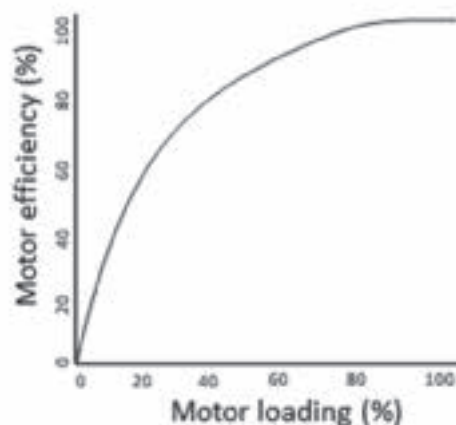

Figure 2. Variation of electric motor efficiency under different loading for constant speed-motors.
- **Motor efficiency:** Three-phase induction motors are used mainly to drive the fans. As the air flow requirement decreases due to reduction in ambient temperature, the motor operates at part-load conditions. Efficiency and power-factor of an induction change with the loading of an induction motor. Until 50% loading, variation in motor efficiency and power factor is negligible. However, the efficiency and the power factors are significantly lower than their full load values for induction motors operating with 40% of the design load or less. This results in lower efficiency for fixed blade and auto-variable fan-motor systems. Typical electrical motor efficiency under different load condition is shown in Figure 2. It is evident from the above that the total efficiency of the motor and fan system decreases significantly at lower than design load.